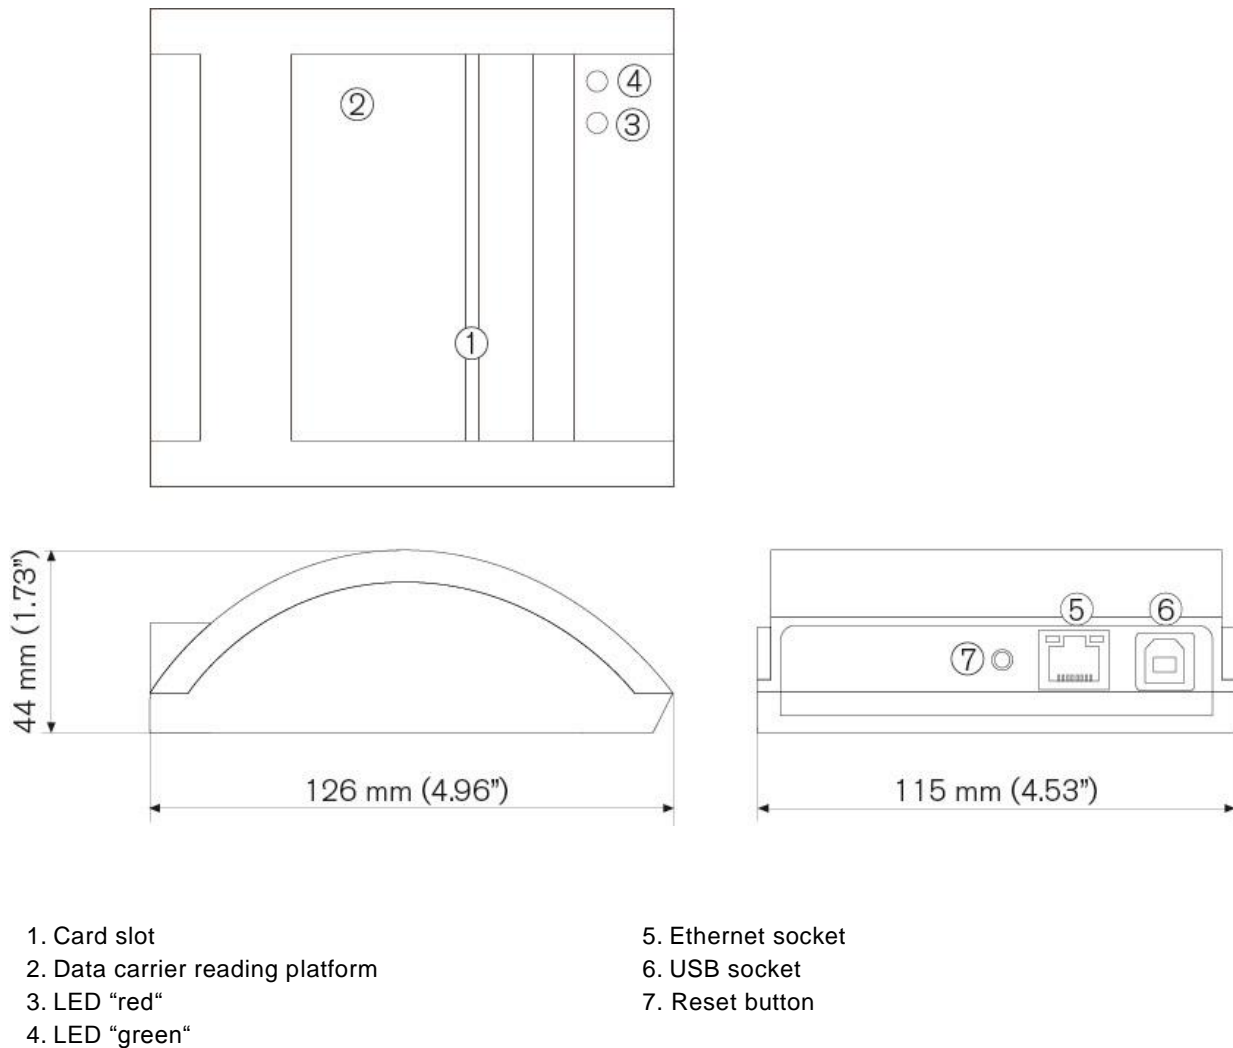
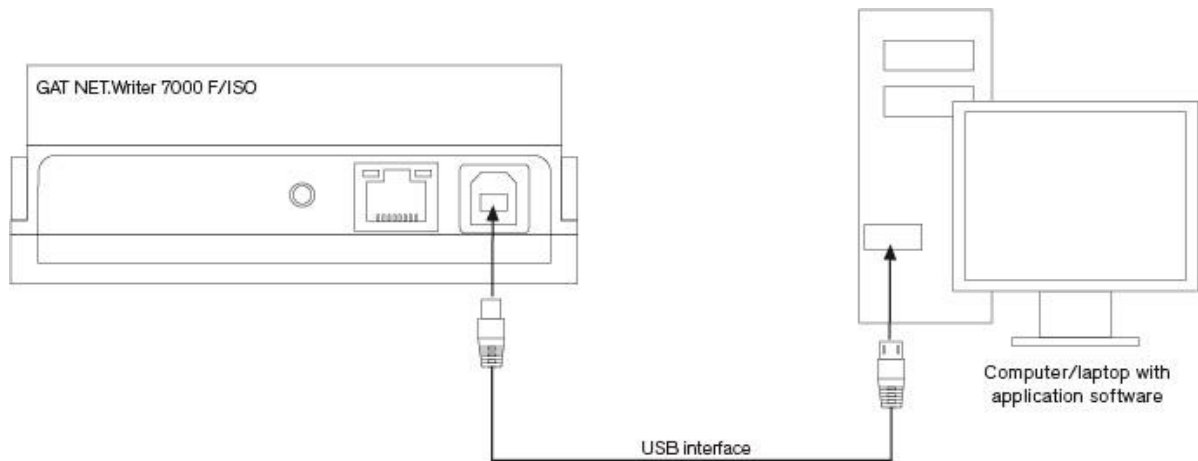
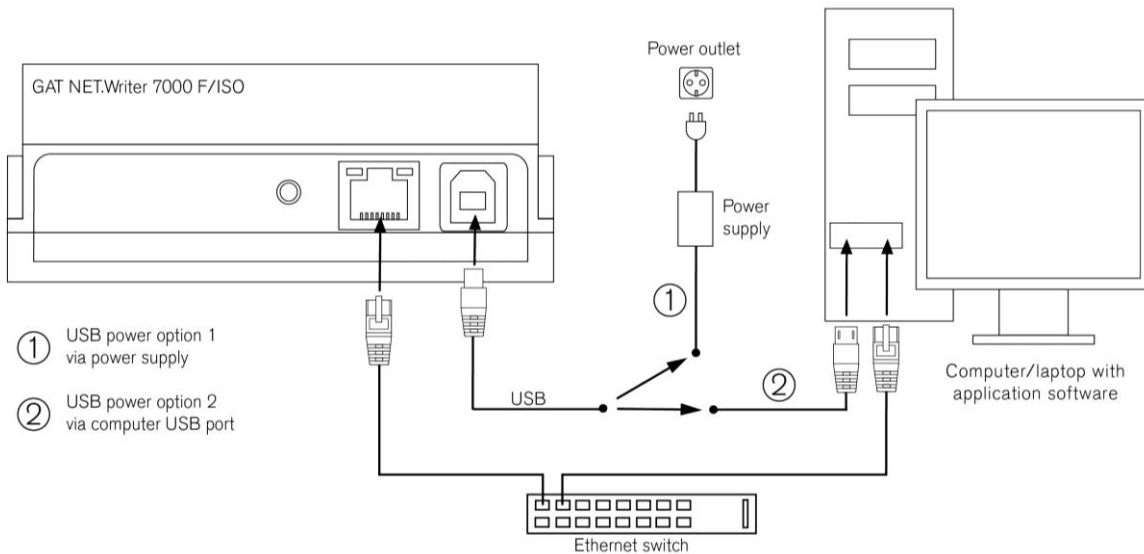

Figure 2.3 – GAT NET.Writer 7000 F/ISO measurements
Figure 3.1 – USB connection
Figure 3.2 – Ethernet connection
The dimensions and main components of the GAT NET.Writer 7000 F/ISO are shown in Figure 2.3 below.
A USB type 'B' connection is provided at the rear of the GAT NET.Writer 7000 F/ISO (6 in Figure 2.3). A USB cable is connected from the USB type 'B' port on the device to the USB type 'A' port of a computer as shown in Figure 3.1 .
An Ethernet connection port is provided at the rear of the GAT NET.Writer 7000 F/ISO (5 in Figure 2.3). An Ethernet patch cable with an RJ 45 plug is used to plug into this connection. The patch cable is then connected to the network, and computer(s) respectively, via an Ethernet switch as shown in Figure 3.2 .
Power for the GAT NET.Writer 7000 F/ISO is always supplied through the USB port (6 in Figure 2.3), regardless of whether the device is using the USB or Ethernet interface for communication.
When the GAT NET.Writer 7000 F/ISO is using the USB interface for communication, power is supplied from the computer to the GAT NET.Writer 7000 F/ISO via the USB cable as shown in Figure 3.1 An additional power supply is not required in this case.
1. Connect the USB cable from the GAT NET.Writer 7000 F/ISO to the power supply (option 1 in Figure 3.2). Connect the power supply to a 110 VAC power outlet. A 1.8 m (5.90 ft) USB cable and power supply are included with the device.
2. Connect the USB cable from the GAT NET.Writer 7000 F/ISO to the USB port of a computer (option 2 in Figure 3.2).